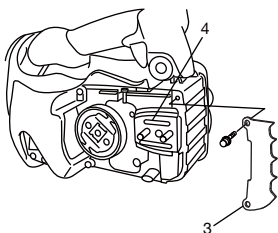

Fig. 2
* In case of installing the spiked bumper (3), remove the guide plate A (4) first and install the spiked bumper (3) (if so equipped) to the unit with two screws, and then install the guide plate A (4) in place. (Fig.2)